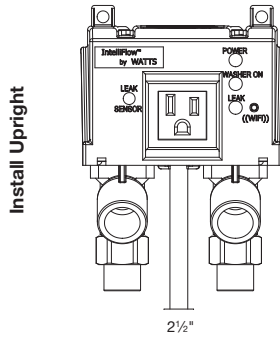

Figure 3
- Piping must be 2½" on center (Figure 3).